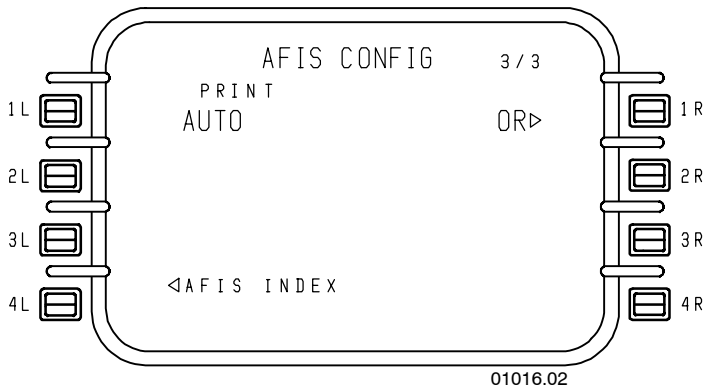

Figure 6-72
- **AFIS CONFIG 3/3** – Figure 6-72 displays the current AFIS print configuration.